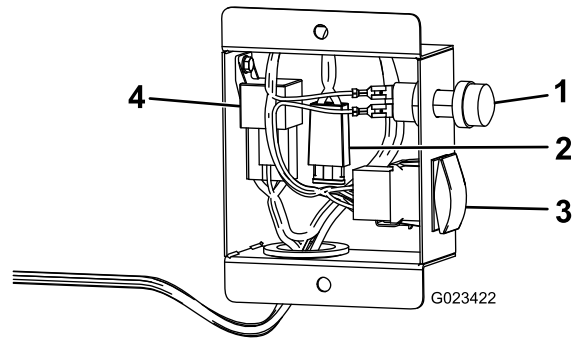

Figure 4
2. Moving down the wiring harness, connect the harness to the rate switch, the hose-reel button, and the power relay (Figure 4).